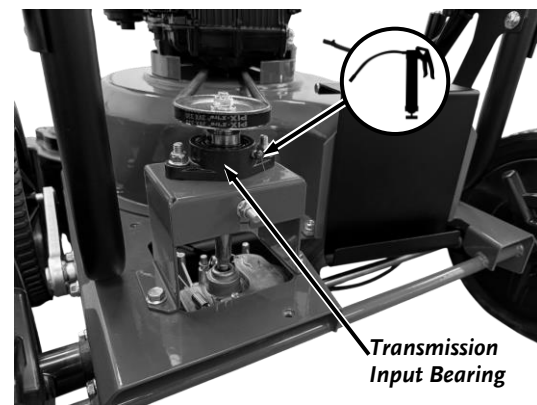

Figure 36
2. Clean the Transmission Input Bearing Grease Fitting with a Clean Rag (**Figure 36**).